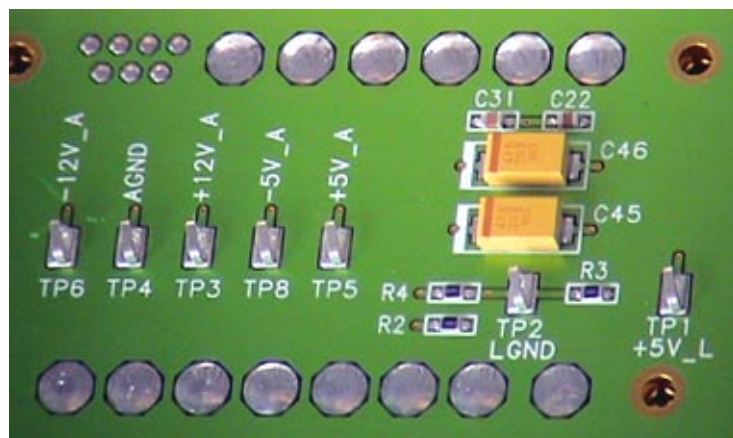

Figure 6 - DAS Center Chassis Voltage Adjustment Test points
- 4.) Check power supplies using Figure 6 for test points and adjust as necessary.